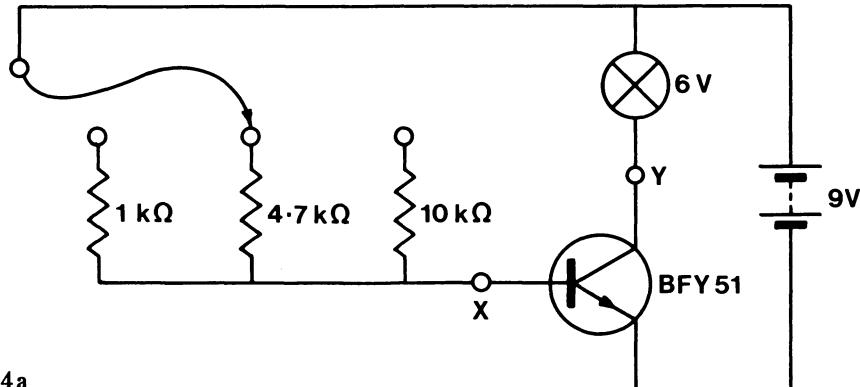
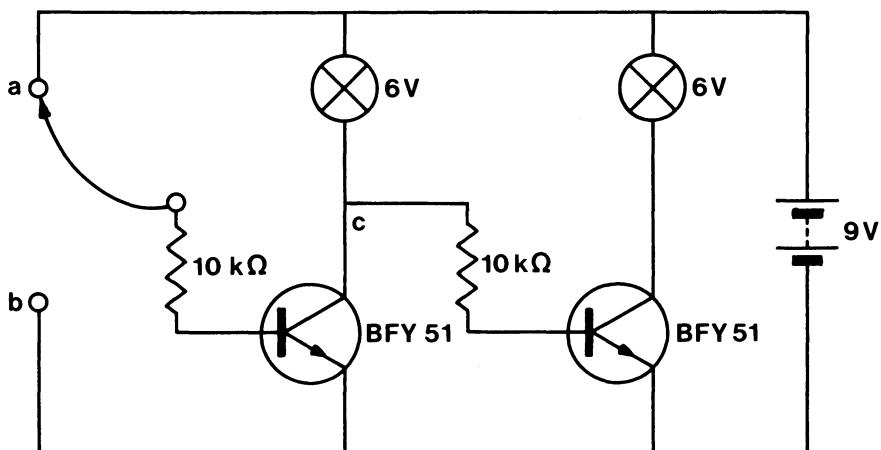
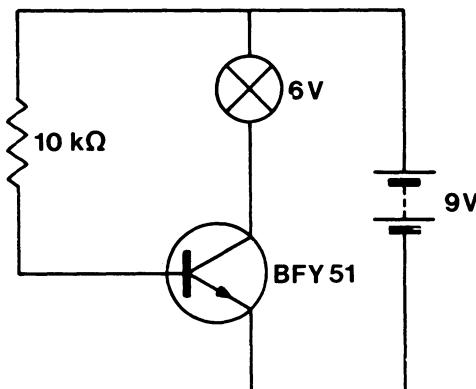

FIG. 1.24a
FIG. 1.24b
FIG. 1.25
1. Measure the currents in the circuit shown in Fig. 1.24a at points X and Y and investigate the effects of different values of base resistor on these.
2. Investigate the use of a saturated transistor as a switch by building the circuit shown in Fig. 1.24b.
1. The circuit shown in Fig. 1.25 is the same as that used in Circuit 5 for demonstrating the current amplification in a transistor. The effect of all the resistances in the transistor base circuit, i.e. the  $22\text{ k}\Omega$  variable resistor, the fixed  $10\text{ k}\Omega$  resistor and the 6 V bulb has been represented by a single resistor. With the variable resistor set to a minimum this is roughly  $10\text{ k}\Omega$ . Remember that when the variable resistor was set to its minimum, the bulb lit with full brightness. To find out what happens when the base resistance is reduced even more, build the circuit shown in Fig. 1.24a.
The circuit in Fig. 1.24b demonstrates the transistor switch. Build this circuit and see what happens as the position of the crocodile clip is changed from point a to point b. Notice that this circuit is just like two transistor switches, as in Fig. 1.24a, connected with the output of the first going into the input of the second (the same battery is used for both transistors). You should find that when the first bulb is switched on, the second is off, and vice versa. What is happening in the circuit is that the crocodile clip allows current to flow into the first transistor, thus switching the first bulb on, only when it is connected to 9 V, i.e. point a. Similarly, the base current can only flow into the second transistor when 9 V is applied to its base resistor at point c. Since the bulb is either on or off, either 0.2 V or 9 V must be at point c at all times and the result is that the second transistor is off or on depending on which condition is present. Thus when bulb 1 is on, 0.2 V is at point c and bulb 2 is off, and when bulb 1 is off, 9 V is at point c and bulb 2 is on. When one bulb is on, therefore, the other is always off.